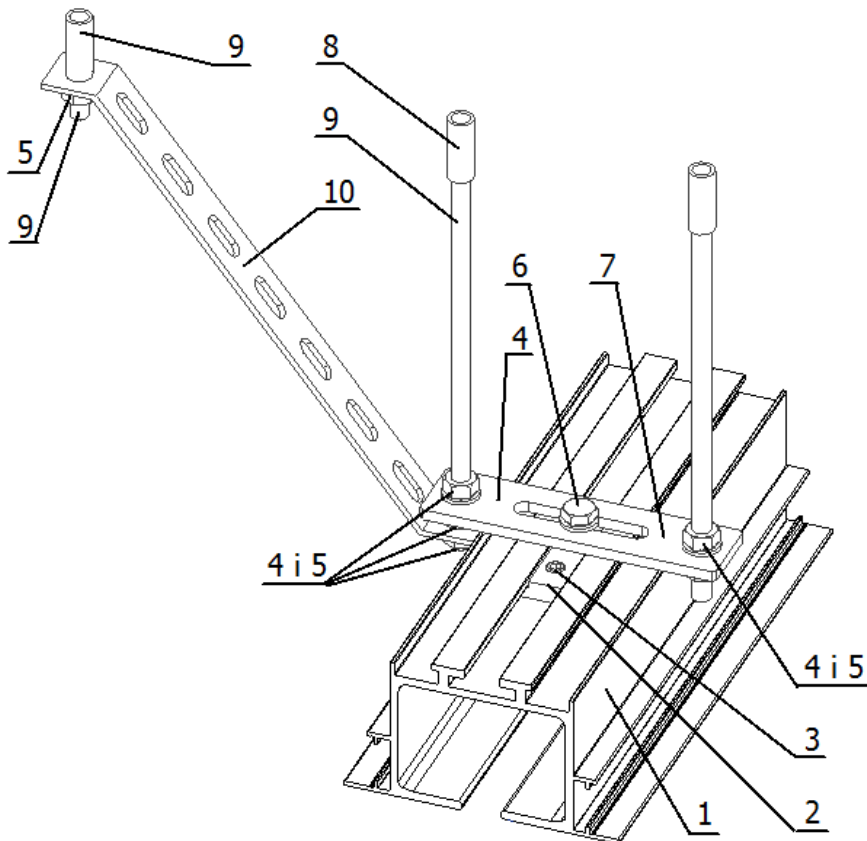

Fig.16. Diagram of mounting the suspension on pins with a perforated flat bar
- reinforced with **perforated flat bars** (Fig.16) - depending on the weight of the panel and the distance of the track from the ceiling (Hz dimension in Fig.4)